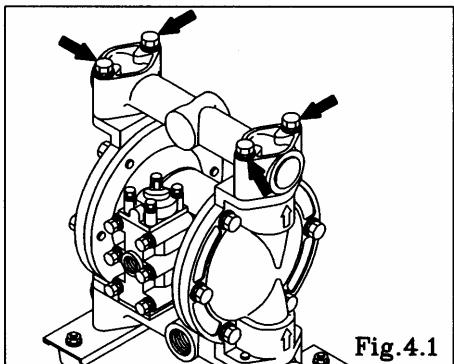

Fig.4.1
See [9. Exploded View] on after p. 11. (Fig. 4.1, 4.2, 4.3 and 4.4 show the NDP-20 BS□.)
- Remove the 4 retainer bolts from the out manifold, and remove the out manifold. [Fig.4.1]